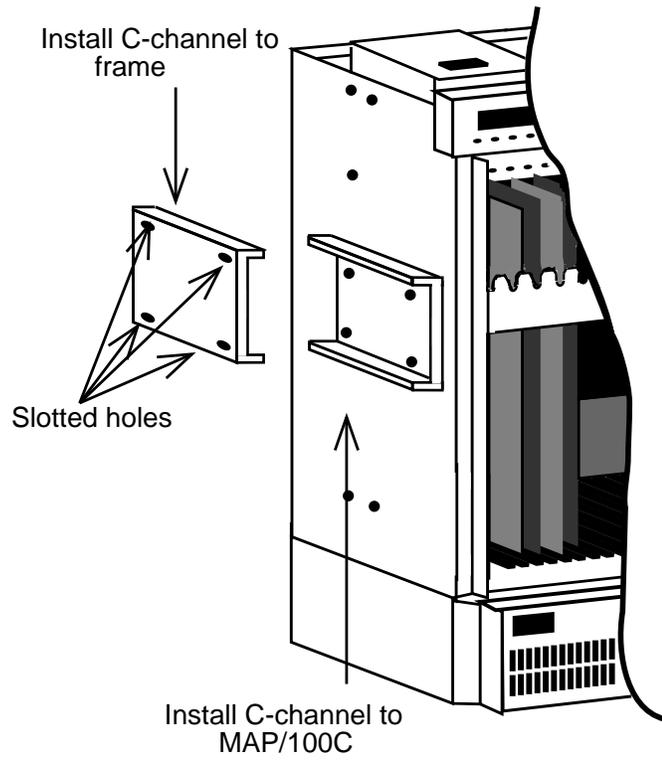

Figure 2-5. Installing C-Channel Brackets onto Frame and MAP/100C
3. Install C-channel brackets on the 5ESS Switch frame and on the MAP/100C unit. There are two sets that accompany each unit. The slotted C-channel must be installed onto the frame. See Figure 2-5. These guides aid you in installing in the unit without having to hold it up to secure it to the cabinet.
6. Attach the two cabinet frame dress filler panels (A10070 and A10071) to the frame beneath the mounting brackets (Figure 2-5).
2. Locate the two support brackets (A10040-B and A10041-B) and attach them to the frame as shown in Figure 2-5 beginning with the lowest frame location. Secure them with 2 #12 screws for each bracket.